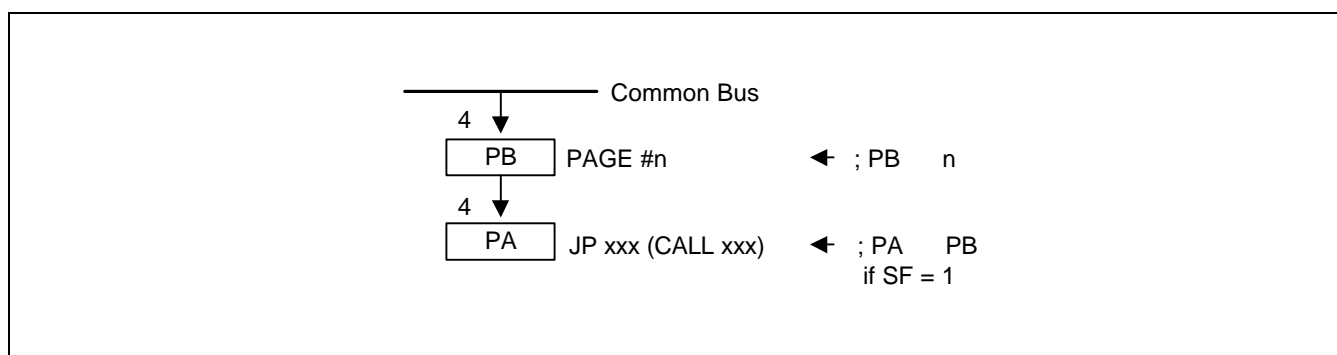

Figure 3-12. PA, PB Operations
A page select instruction (PAGE #n) loads the value "n" into the PB. When JP or CALL instruction is executed, and if the Status Flag (SF) is set to 1, the contents of PB are loaded into PA. If SF is "0", however, the JP or CALL is executed like NOP instruction and SF is set to "1". The contents of PB don't be loaded. Figure 3-12 illustrates this concept.